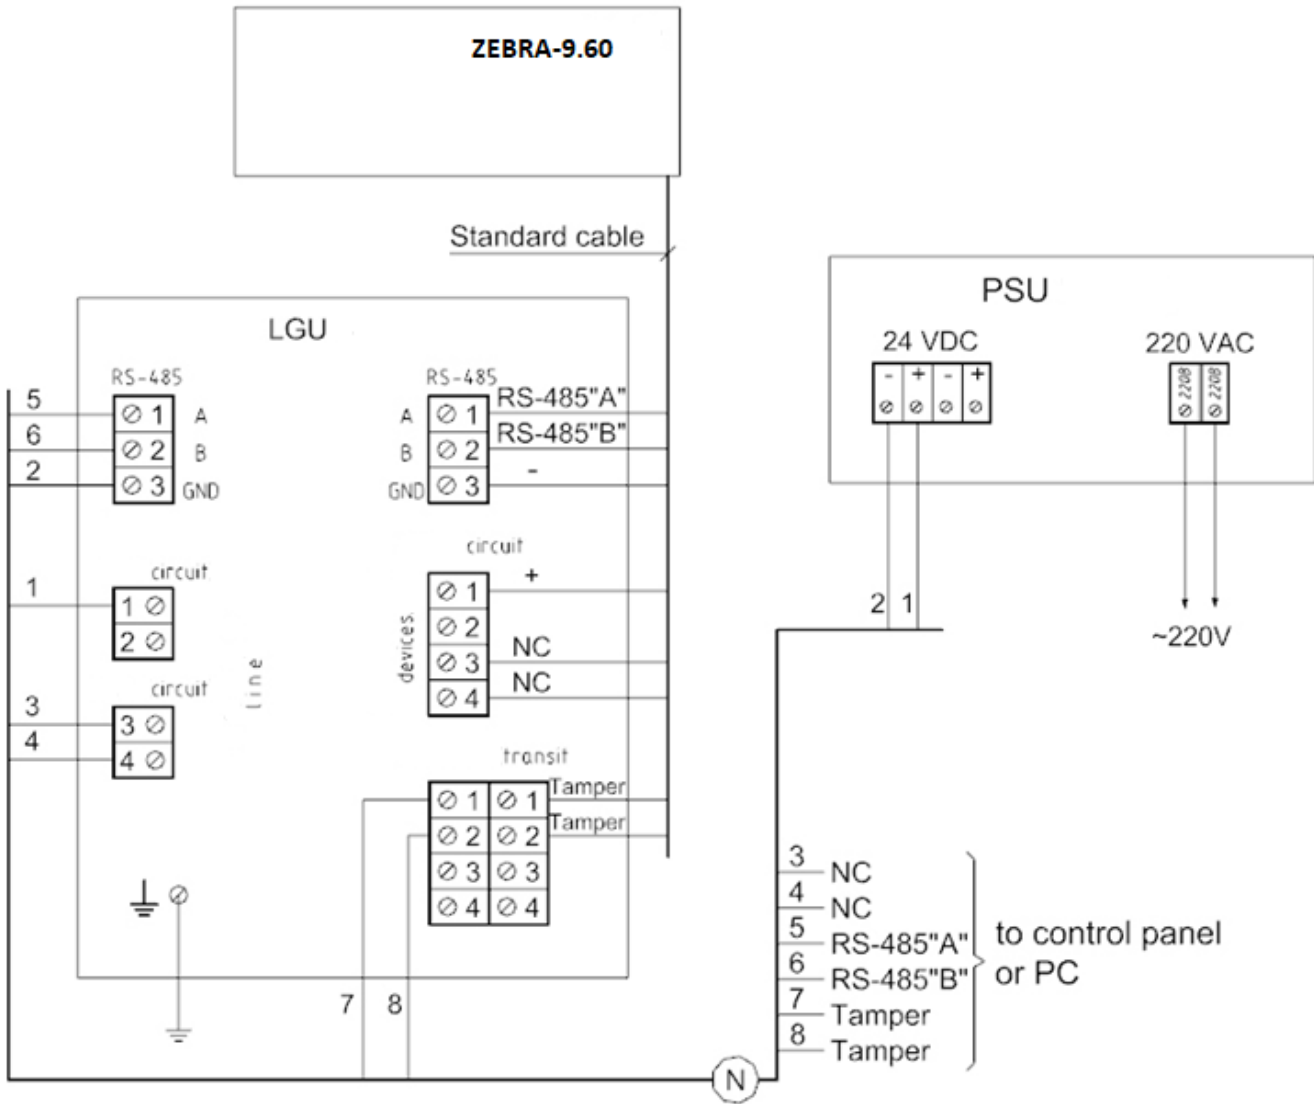

Figure 2.6 – Connection diagram using LGU
- 2.3.6.4 Figure 2.6 shows the connection diagram using the lightning guard unit and the power supply unit.